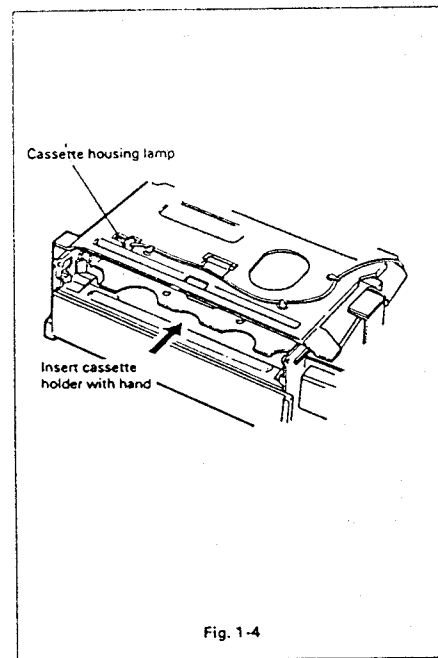
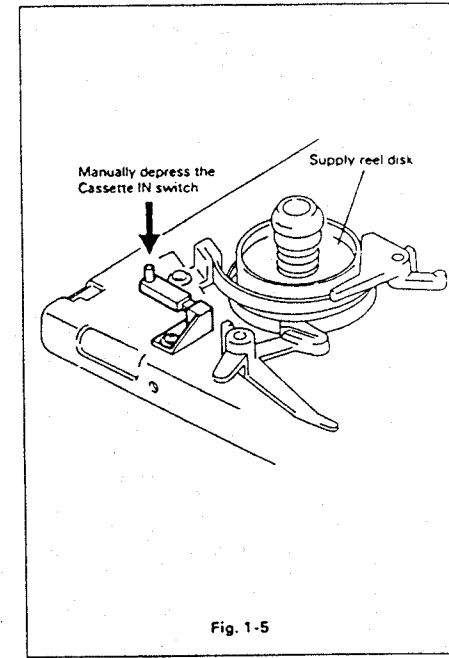

Fig. 1-4
Fig. 1-5
- (3) When operating without using a cassette, insert the cassette holder until it comes to stop as shown in Fig. 1-4, then depress the cassette IN switch (Fig. 1-5). When the cassette house lamp lights, the unit can be operated even with the cassette IN switch released.